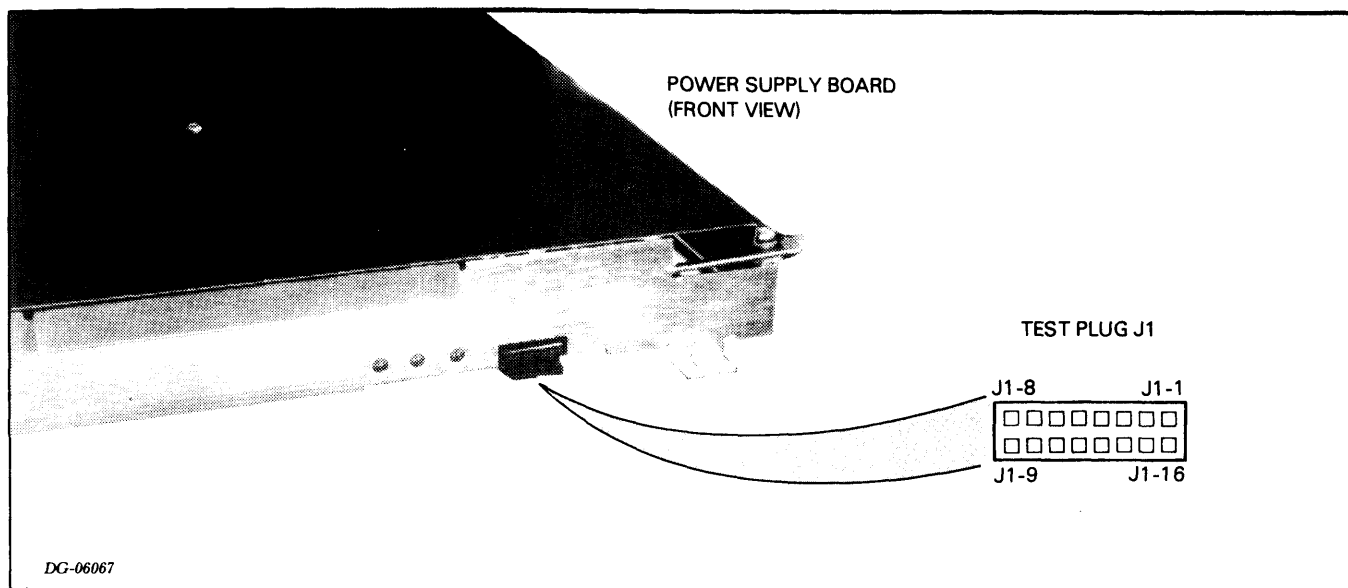

Figure 6.8 TEST PLUG
2. Check the +5V voltage at test plug J1-15 (see Figure 6.8). If +5V is between 5.10V and 5.20V, go to "Final Checkout"; otherwise, continue the checkout.
- If -11V is NOT between -11.0V and -12.5V (-30VNR not ok), check the **VREF** at test plug J1-14 (see Figure 6.8). If **VREF** is 5.8V, replace the VNR unit; otherwise, replace the power supply board.
- If -11V is between -11.0V and -12.5V (-30VNR ok), check the **HVS** voltage at test plug J1-4 (see Figure 6.8). If **HVS** is greater than 2.9V, replace the power supply board; otherwise, replace the VNR unit.
6. Recheck the +5V voltage at test plug J1-15 (see Figure 6.8). If it is between 5.10V and 5.20V, go to "Final Checkout"; otherwise, try replacing the internal cable (wiring harness). If this does not work, get help from DGC Field Service.
- Make sure the LOCK switch is in the UNLOCK position. If the fans still do not stop, check the $\overline{\text{PWR FAIL}}$ voltage at test plug J1-3 (see Figure 6.8).
- If $\overline{\text{PWR FAIL}}$ is less than 0.4V, check PON at test plug J1-11 (see Figure 6.8). If PON is less than 0.4V, replace the VNR unit; otherwise, replace the power supply board.